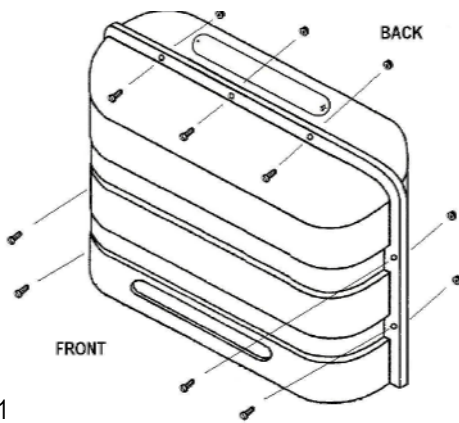

Figure 1
Step 1: Assemble the 2 plastic shells as shown in Figure 1 so that the side without the access panel is located at the front.